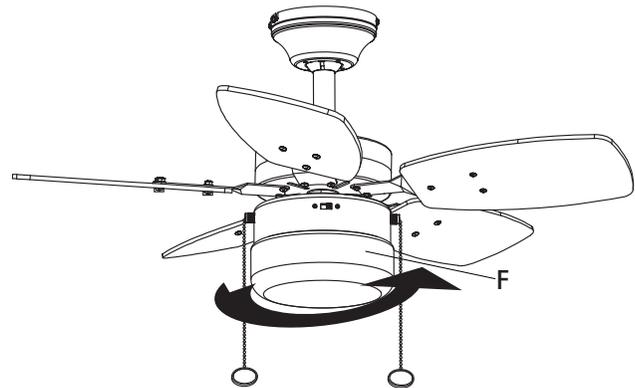

Figure 14
- Install the lamp shade (F) into the lamp-fitter by a gentle clockwise twist-and-lock (Figure 14).